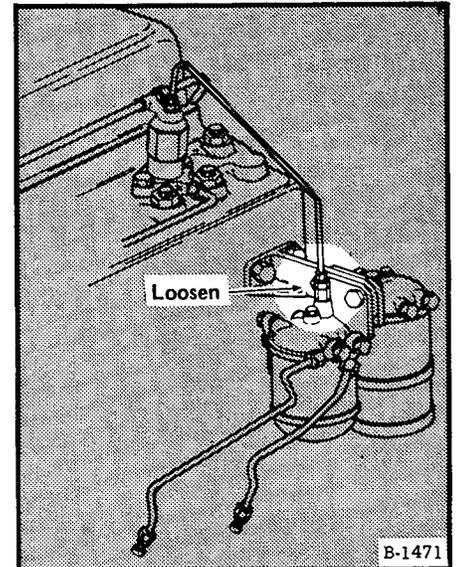
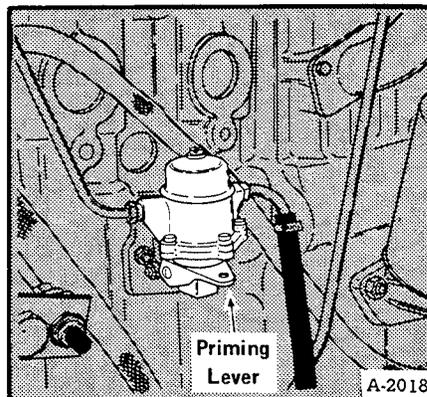

Fig. 1-28 Removing Air From Filters
Fig. 1-29 Fuel Pump
- (3) Loosen and remove fuel outlet pipe assembly on top of filter cover (Fig. 1-28).
- (4) Operate priming lever on fuel lift pump (Fig. 1-29) to force fuel and air bubbles through vent points.
- (5) When no more air bubbles come from all vent points, tighten vent screws in the following order:
- a. Fuel filter outlet pipe assembly (Fig. 1-28).